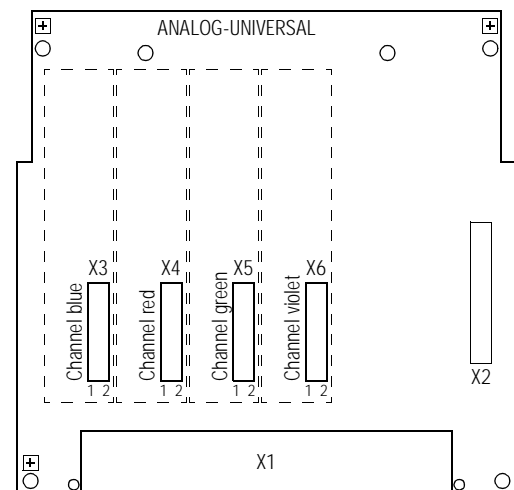

Figure 16 Arrangement of the jumper fields
2. Arrange the jumpers on the wiring side of the channel card in a channel-specific manner. Figure 16 shows the jumper fields that are assigned to the channels (X3...X6).